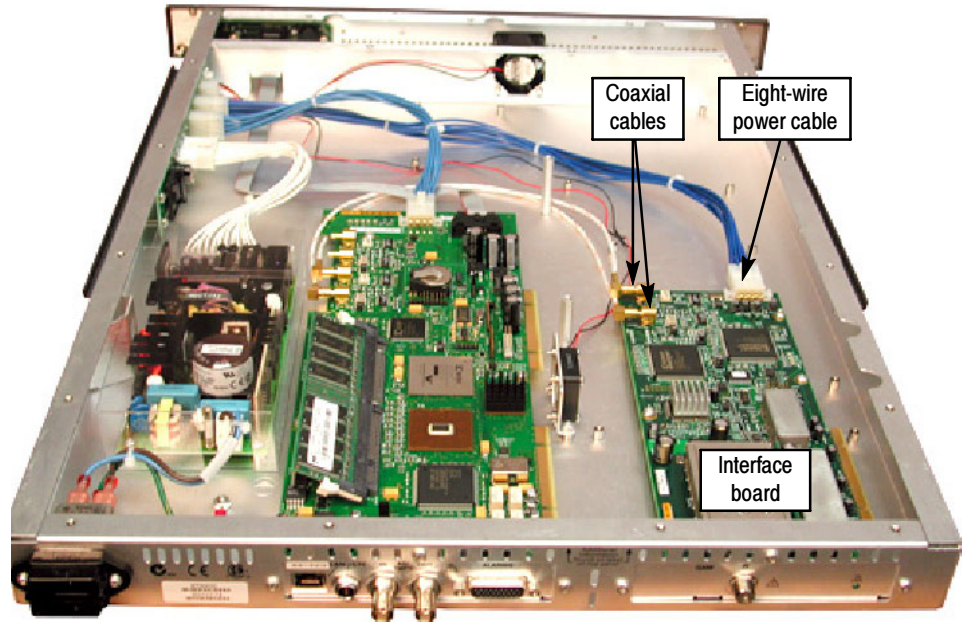
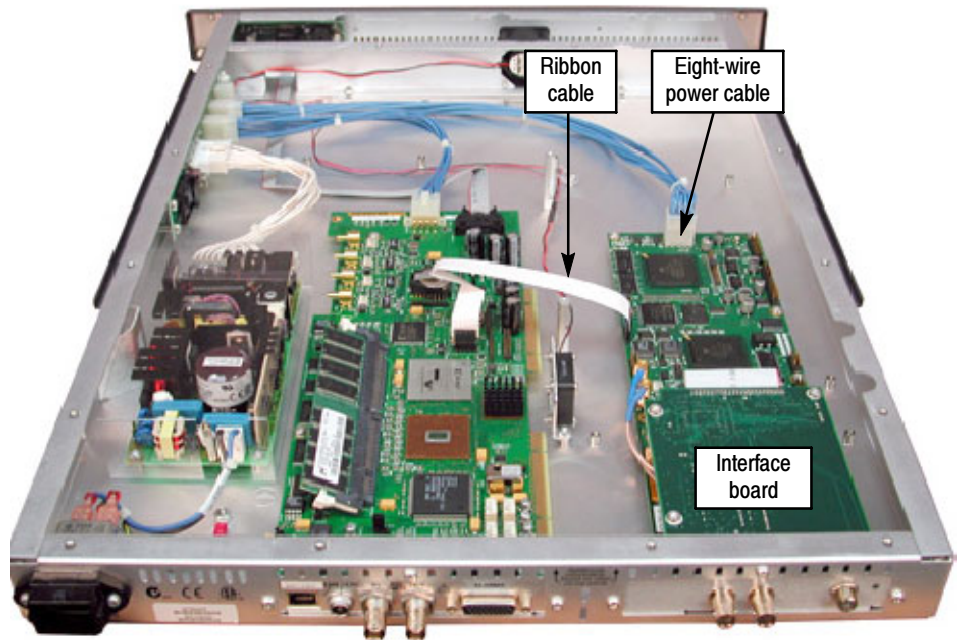
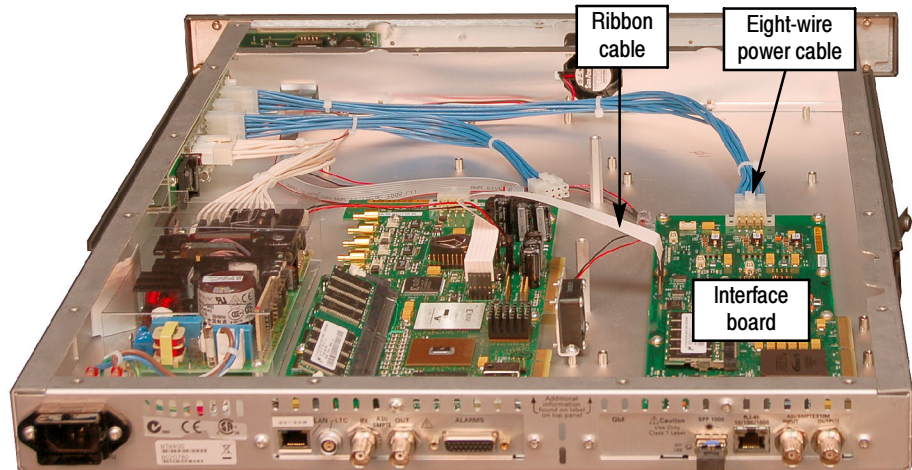

Figure 17: QAM (Annex A), QAM (Annex B, old version), QAM (Annex C), and QPSK (L-Band) interface board installation
Figure 18: QAM (Annex B, new version), 8PSK, 8VSB, and COFDM interface board installation
Figure 19: GbE interface board installation
2. Locate the interface board in your instrument (see Figure 17 and Figure 18). The interface board is mounted on the right side of the instrument as viewed from the rear.
4. If your instrument has an interface board already installed, use Figure 17, Figure 18, and Figure 19 to determine which type of interface board is installed.
CAUTION. To avoid incorrectly installing the interface board, be sure to follow the removal directions for the type of interface board that is installed in your instrument. There are three types of interface boards as shown in Figure 17, Figure 18, and Figure 19. Each board type has different cable connections.
- a. Disconnect the two coaxial cables from the SMB connectors labeled I/P and O/P (see Figure 17). These are push-fit connectors.
- a. Disconnect the ribbon cable from the connector labeled J14 on the interface board (see Figure 18).
- a. Disconnect the ribbon cable from the connector labeled J10 on the interface board (see Figure 19).
11. Place the new interface board into the right side of the instrument (as viewed from the rear of the instrument). See Figure 17 and Figure 18 on page 24.